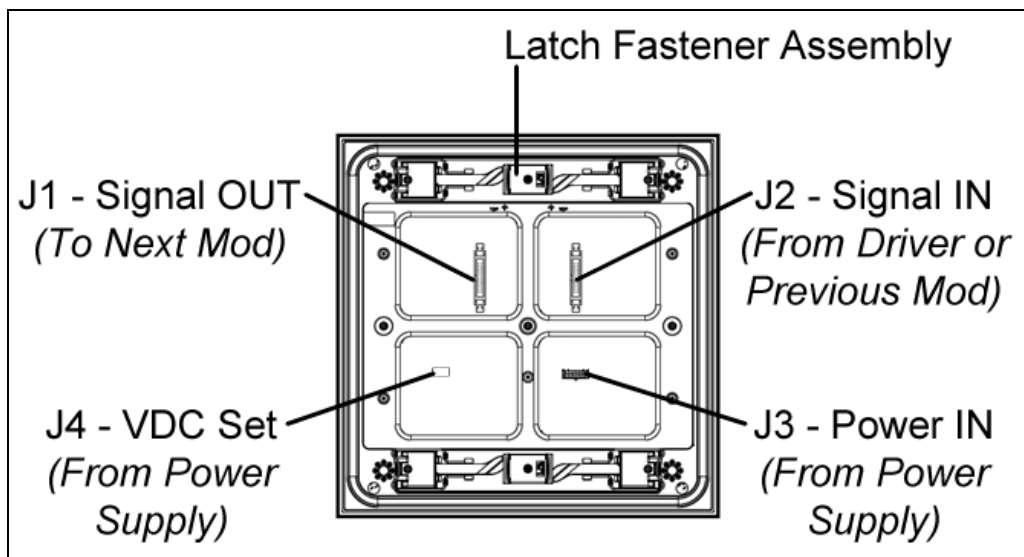

Figure 26: TNMC Module, Rear View
2. Use a 1/8" hex wrench or 7/32" nut driver to loosen the latch fastener assembly (**Figure 26**). Turn each fastener a quarter-turn clockwise (if using a nut driver, turn the top latch counter-clockwise and the bottom latch clockwise).